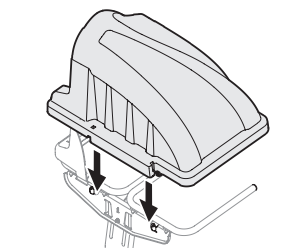

Figure 8
4. Install the bagger cover onto the bag support assembly, as seen in Figure 8. The plastic cover goes inside of the two mounting tabs.